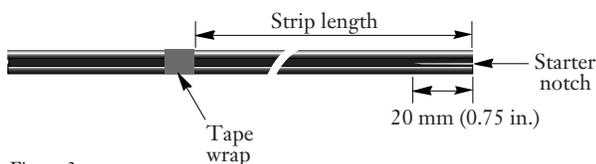

Figure 3
5.2 Mark the cable at the appropriate distances from the cable ends with wraps of tape. Use scissors or side cutters to carefully cut a 20 mm (0.75 in.) starter notch in the web that joins the messenger and the buffer tube sections of the cable (Figure 3).